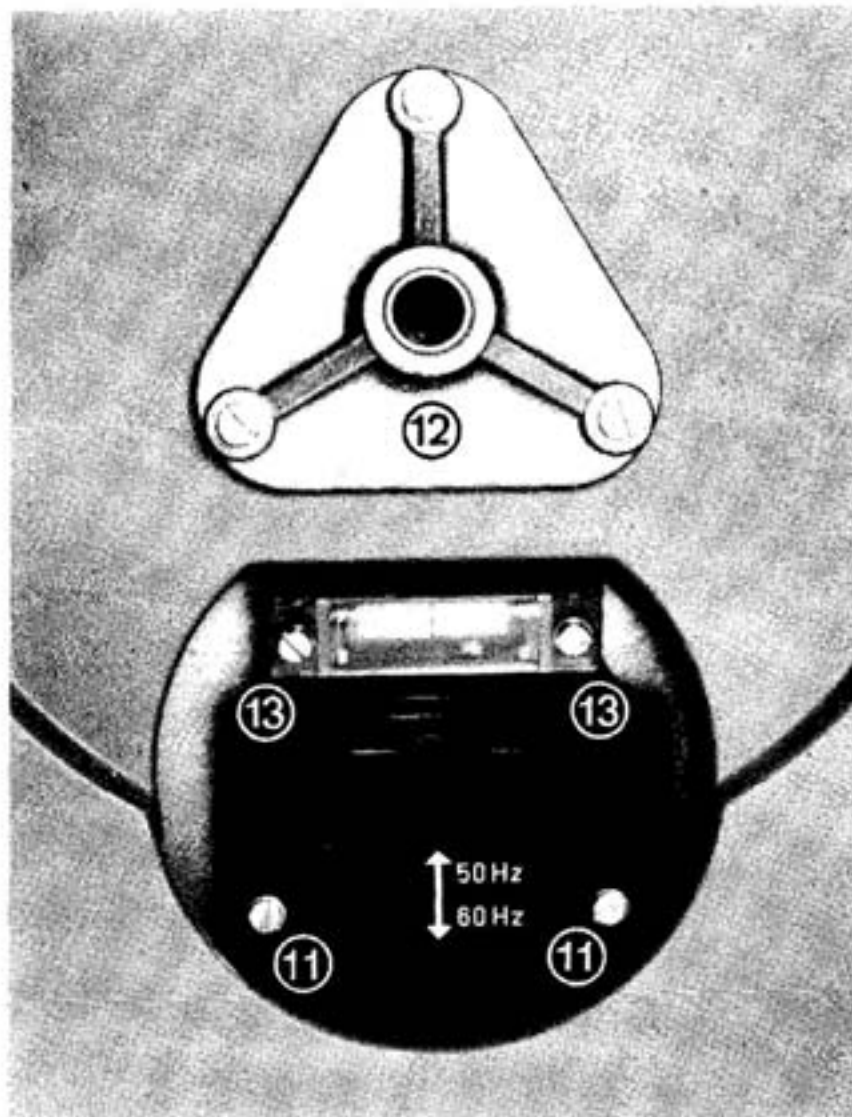

Fig. 7
The neon bulb is then accessible, located under a cylindrical lens at the upper edge of the black stroboscope plate. Fig. 7. After unscrewing both screws left and right beneath the lens ⑬, the lens can be removed and the neon bulb replaced.